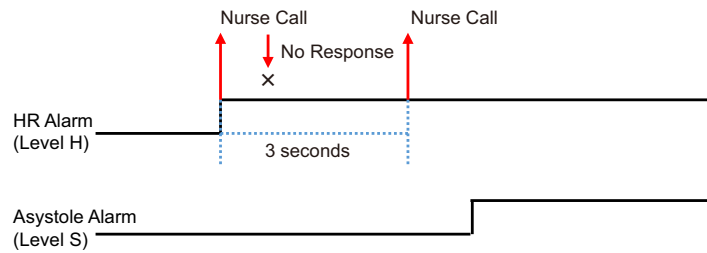

Figure 11: When there is no response from nurse call system
- ♦ When there is no response from nurse call system, the alarm will be re-notified to nurse call after the time-out period (3 seconds) (Figure 11).